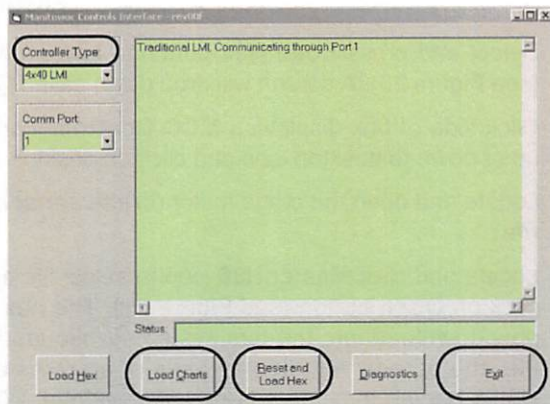

FIGURE 15
3. **Manitowoc Controls Interface - rev00f or newer** screen is displayed (see Figure 15).
8. Select and press **Reset and Load Hex** button in lower center (see Figure 15).
12. Go back to the **Manitowoc Controls Interface - rev00f or newer** screen (see Figure 15).
16. Click **Exit** button on control interface screen (see Figure 15) and disconnect cable. Scroll up or down on display and working screen will return.